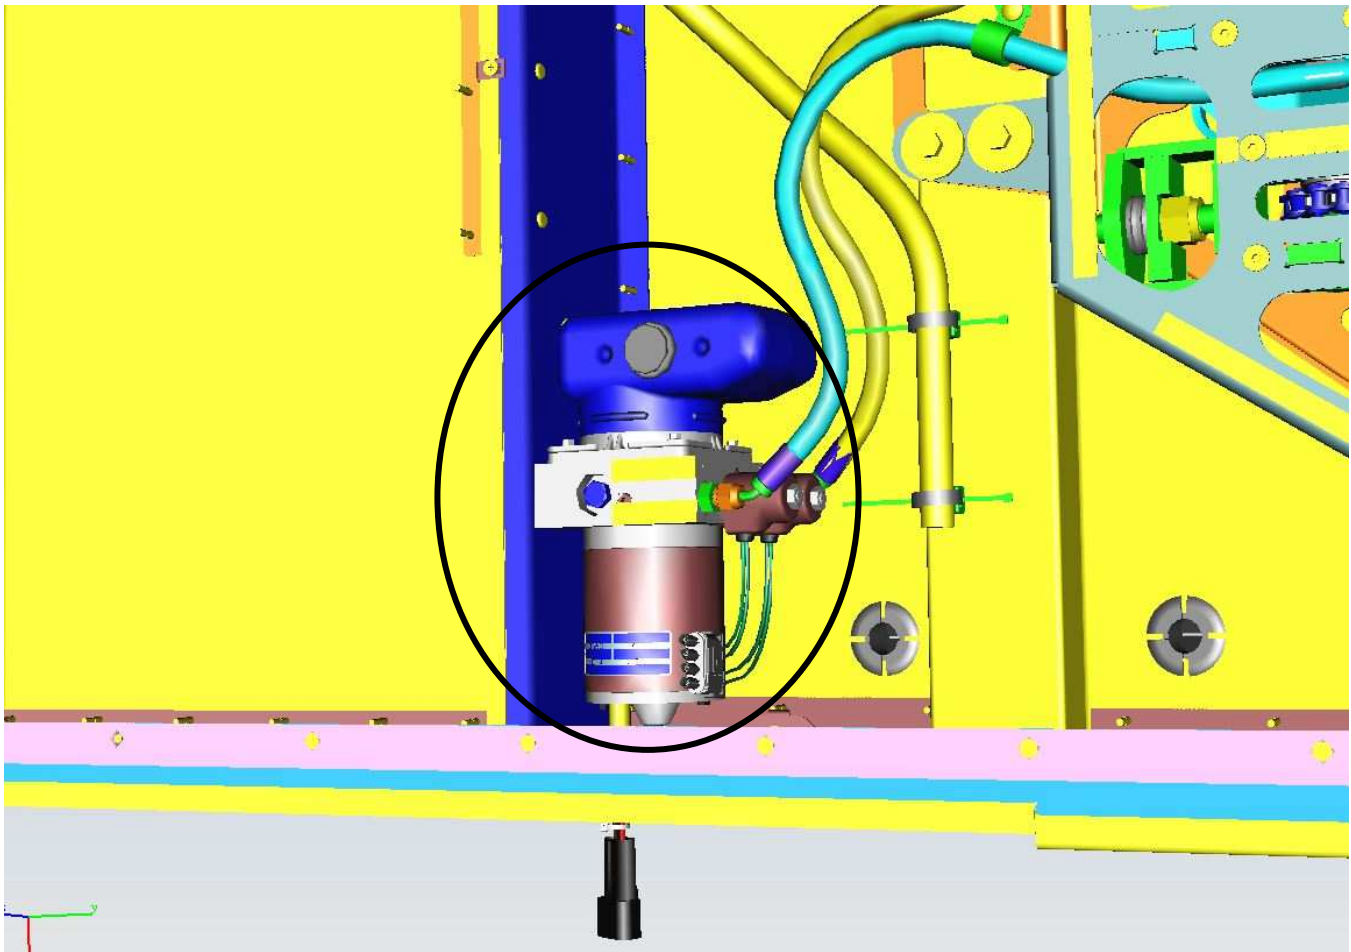

Figure 2: Powerpack
4. Locate the powerpack. Figure 2.